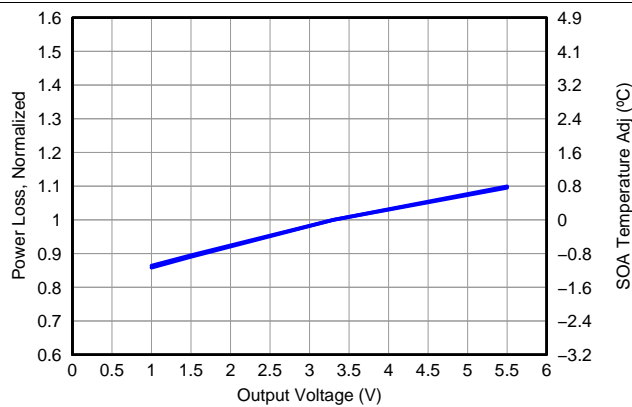

Figure 8. Normalized Power Loss vs Output Voltage
- Normalized power loss for output voltage \approx 0.9 (Figure 8)
- SOA adjustment for output voltage \approx -0.8°C (Figure 8)